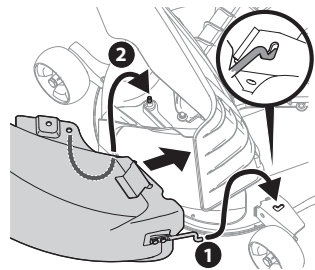

Figure 25
4. Insert the bagger chute mounting rod (1) into the hole provided in the deck wheel mount as shown in the inset of Figure 25.
5. Pivot the bagger chute rearward until the hole in the bagger chute elbow aligns with the pin on the bagger chute adapter. Move the bagger chute down onto that pin as shown in 2 of Figure 25.